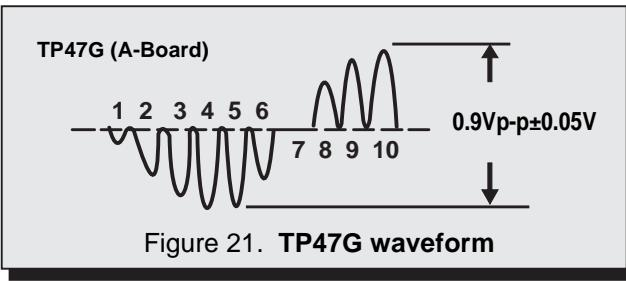

Figure 21. TP47G waveform
3. Select DAC Sub-Color Adjustment (B0) and adjust for peak to peak amplitude to be **0.9Vp-p ±0.05V** for 27" models as shown in Fig. 21.